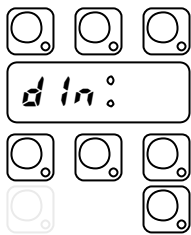

Fig. 3.2
- Press CYCLE_INFINITE. The display shows alternatively the symbol *dIn* and the duration in seconds (Fig.3.2 and 3.3);